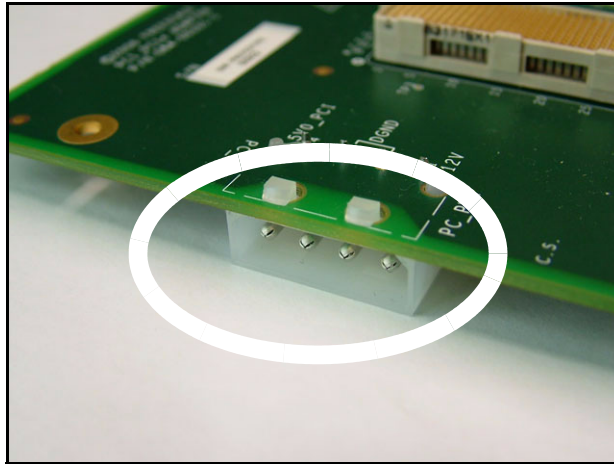

Figure 2-30. PCI\_PcIe adaptor: power supply socket
4. Alternatively, you can use the PCI\_PCIe adaptor's PCIe edge connector, but in this case you must configure SW2.4-SW2.6 to '010', and you must connect the power socket on the PCI\_PCIe adaptor (see Figure 2-30) to the PC's power supply.